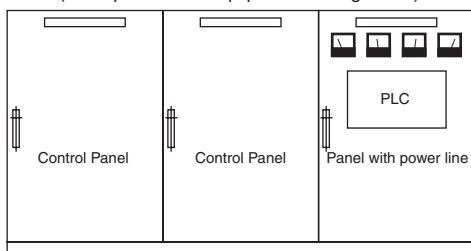

Figure 3. Examples of Equipment Arrangement in Panel with High-voltage Device
For the sake of safety in maintenance and operation, installation should not be near high current (more than 600V) or high power devices. Where this cannot be avoided, installation should be as far away from such devices as possible. (See Figure 3)
- ④ Do not install power cables and signal cables in parallel as they will adversely affect each other.
- ⑤ When high-voltage devices are installed in the panel, due to noise, this should be separated as much as possible from high voltage and power lines when wiring. (See Figure 3)